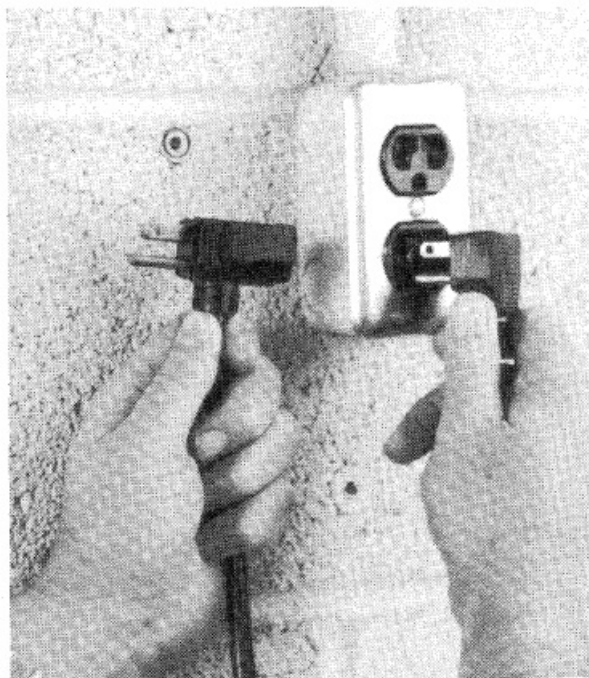

FIG. 7
5. If pump does not start as described, remove switch and pump plugs and plug pump cord directly into receptacle as shown by Fig 7. If pump starts and operates, it will indicate switch is not operating due to hanging up of the weights or other causes. If pump does not start, check for blown fuse or tripped circuit breaker or defective pump.